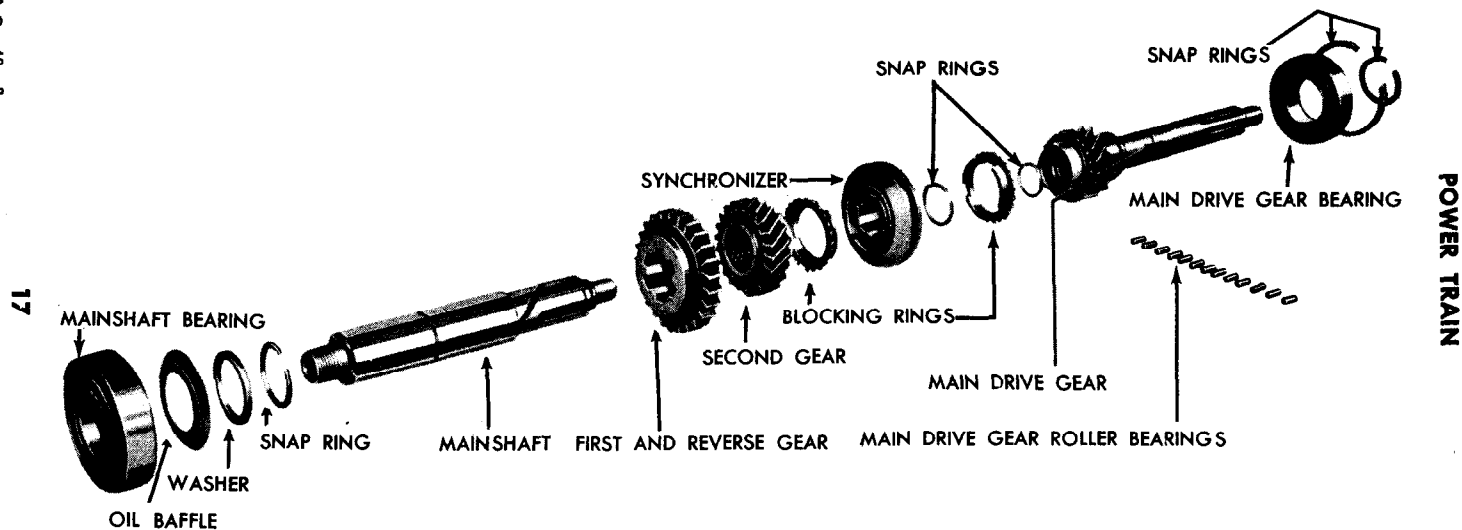

Figure 13 — Mainshaft Assembly — Exploded View
i. **Disassemble Main Drive Gear (fig. 13).** Remove the snap ring and the 13 rollers from the main drive gear.
j. **Disassemble Synchronizer (fig. 13).** Slide the synchronizer sleeve off the synchronizer hub and remove the two lock rings.
(2) **MAIN DRIVE GEAR ASSEMBLY** (fig. 13). Replace the main drive gear (clutch shaft) if the following conditions are apparent: Broken teeth or excessive wear; pitted or twisted shaft; discolored bearing surfaces due to overheating. Small nicks can be honed and then polished with a fine stone. Measure the roller bearing recess in the gear end of the shaft. If more than 0.974 inch, replace the main drive gear. Measure the pilot end of the shaft. If it is less than 0.595 inch at the pilot end, replace the main drive gear.
(3) **MAINSHAFT** (fig. 13). A mainshaft excessively worn, or with pitted or discolored bearing surfaces due to overheating, must be replaced. Measure the diameter of the pilot end of the shaft and the diameter of the second speed gear bearing surface. If they are less than 0.595 inch at the pilot end, or less than 1.126 inches at the second speed gear bearing surface, replace the mainshaft.
(4) **FIRST AND REVERSE GEAR** (fig. 13). A first and reverse gear with excessively worn teeth or splines, or with broken or chipped teeth must be replaced. Slide the gear onto the mainshaft. If the backlash between the gear and the shaft exceeds 0.005 inch, either the gear or the shaft, or both, must be replaced. A gear with small nicks can be honed and then polished with a fine stone.
(5) **SECOND GEAR** (fig. 13).
(9) **SYNCHRONIZER** (fig. 13). Blocking rings with worn, broken, or nicked teeth, must be discarded. Hubs with excessively worn splines must be replaced. Sleeves with broken, nicked, or worn teeth, or excessively worn splines, must be replaced.
(10) **MAIN DRIVE GEAR BEARING ROLLERS** (fig. 13). Needle bearing rollers with flat spots, pitted, or discolored surfaces must be replaced. Measure the diameter of each roller. If less than 0.187 inch, the rollers must be replaced.
(11) **BALL BEARINGS** (fig. 13). Ball bearings with loose or discolored balls, or with pitted or cracked races must be replaced.
c. **Install Mainshaft Assembly** (fig. 13). Insert the mainshaft in the case through the opening in the rear of the case. Slide the first and reverse gear onto the shaft, with the shifter fork channel toward the rear. Slide the second gear onto the mainshaft with the tapered end of the gear toward the front. Install a blocking ring onto the second gear. Slide the synchronizer onto the mainshaft with the long end of the hub toward the front and install the snap ring.
d. **Install Main Drive Gear Assembly** (fig. 13). Place the other blocking ring in the synchronizer and install the main drive gear assembly in the case.
a. **Install Transmission to Transfer Case.** Place the transmission in position on the transfer case. Be sure the interlock plunger (fig. 4) is in position between the two shifter shafts on the transmission. Install the bolts that secure the transmission to the transfer case. Slide the oil baffle and mainshaft gear on the transmission mainshaft through the rear cover opening on the transfer case. (The oil baffle was not supplied on vehicles of early manufacture. If grease is found to have been leaking from the transfer case into the transmission on vehicles without this baffle, reverse the rear mainshaft bearing (fig. 13) so that the open side of the bearing faces the front of the transmission. Leave the oil baffle in front of the bearing in its original position. Install another oil baffle at the rear of the bearing.) Install the flat washer and nut that secure the mainshaft gear to the transmission mainshaft. Install a new gasket and the rear cover on the transfer case (fig. 27).